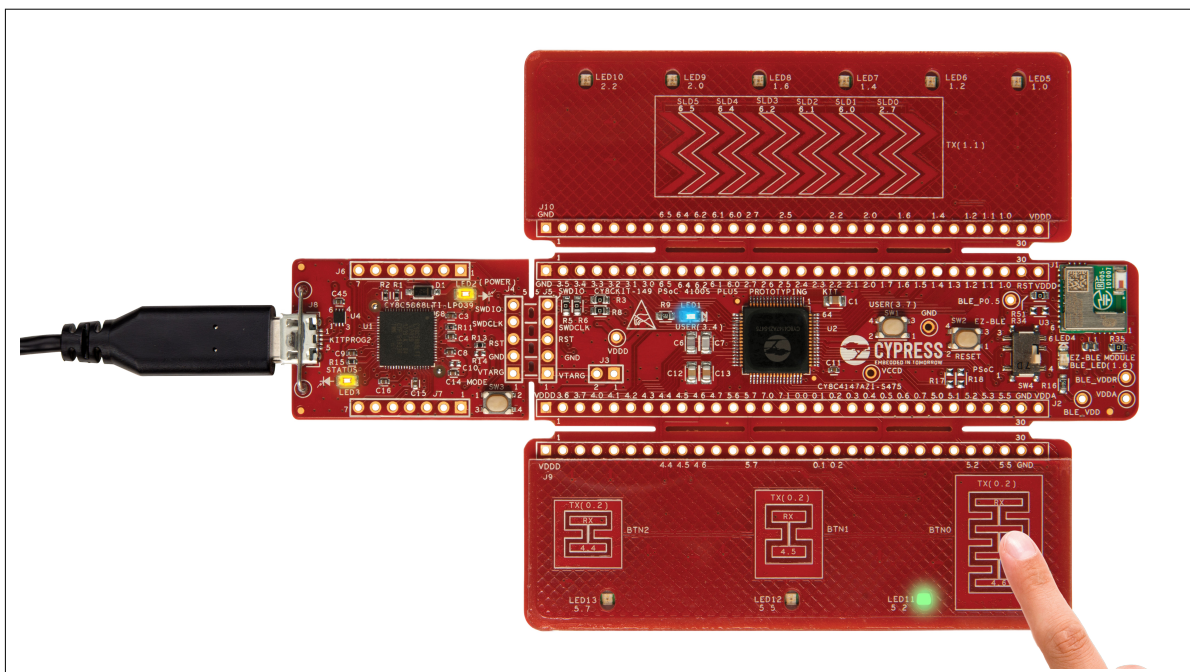

Figure 8 CAPSENSE™ button operation with LED indication
2. Touch the self-capacitance-based button (CSD) Button0, Button1, and Button2 with the finger and observe the LED11, LED12, and LED13 turning ON, respectively, as shown in Figure 8